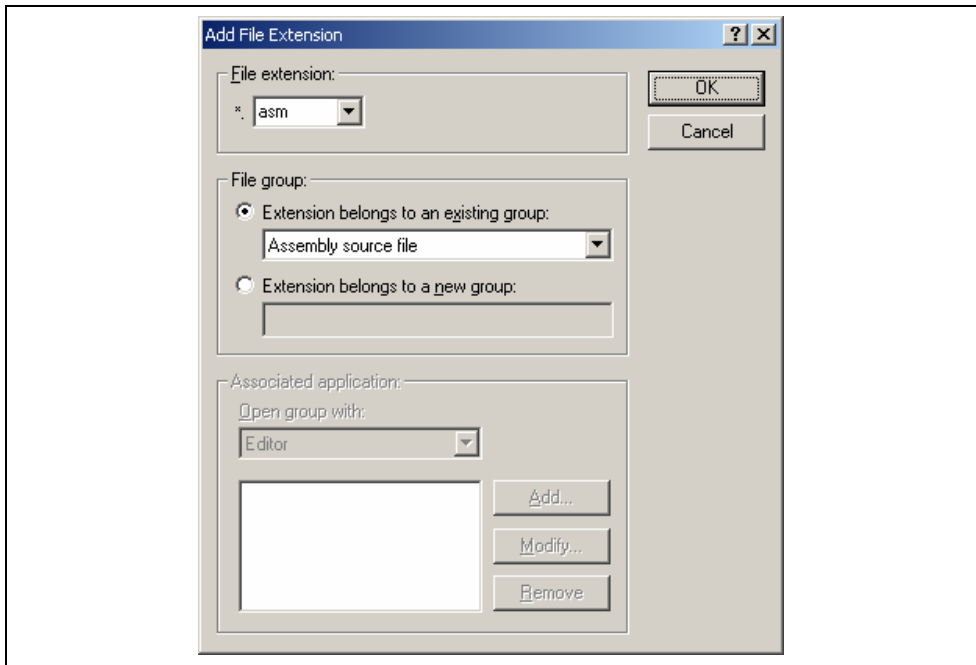

Figure 2.10: Add File Extension Dialog (Existing Group)
2. Click the “Add...” button. The “Add File Extension” dialog will be displayed (figure 2.10).